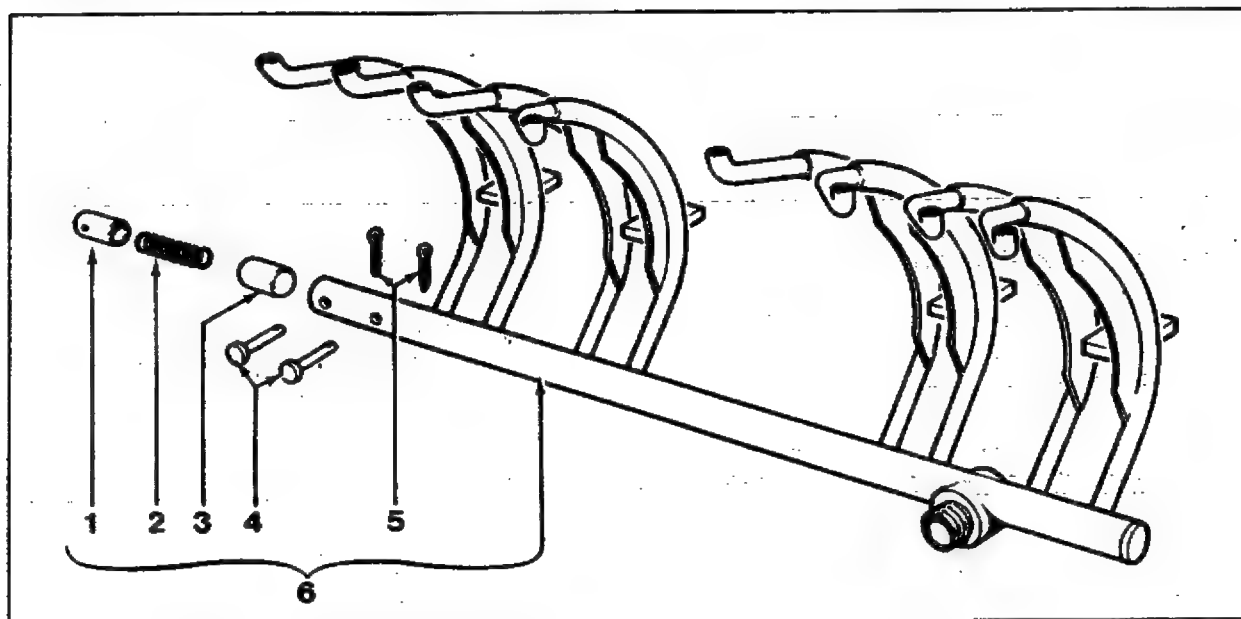

Fig. 28. Piston Oil Cooling Rail
3. Remove sump, disconnect suction pipe, unscrew the 'U' bolt nuts also the oil pipe securing nuts and remove the oil rail. (Fig. 28).
4. To inspect the oil pressure relief valve, remove the end split pin and withdraw the relief valve seat, spring and plunger. (Fig. 28).